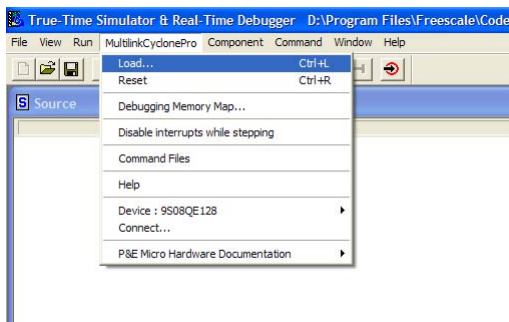

Figure 6. Loading the .abs File
3. As shown in Figure 6, from the menu bar of the HiWave main window choose MultilinkCyclonePro-> Load... (CTRL+L).